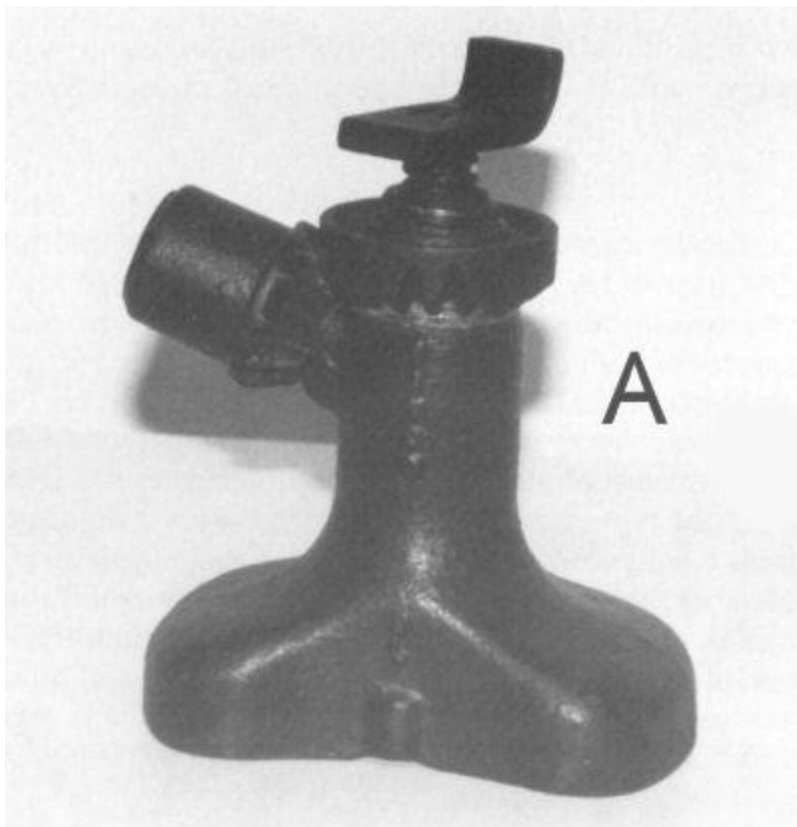

Figure 3
A. 3H1532 is the Shelley jack (Jack A), with CINCH (6INCH) cast vertically down the side opposite the SHELLEY, and has a 3/4" square drive hole. It has an "L" piece atop the lifting screw. Note that the base has some unique casting features, as seen in Figure 3. The handle pieces are each about 14" long. Each handle piece has 3/4" ball-like ends, one with hole for a Tommy bar, and the other with one spring-loaded ball to help hold it into the drive hole.